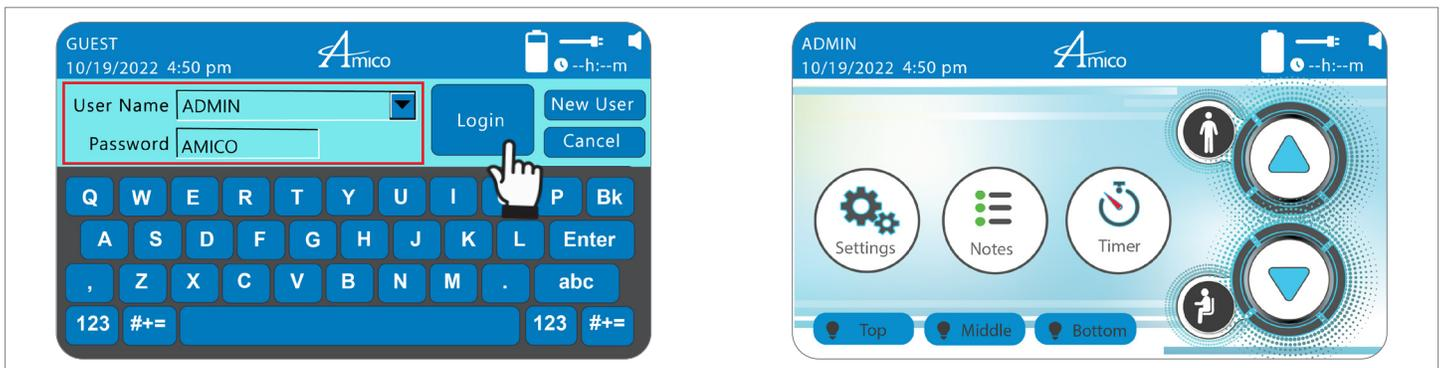

Figure 55
2. Select **"ADMIN"** from the **"USER NAME"** drop down list, enter password (AMICO) as shown, tap on **"LOGIN"** (Figure 55 right).